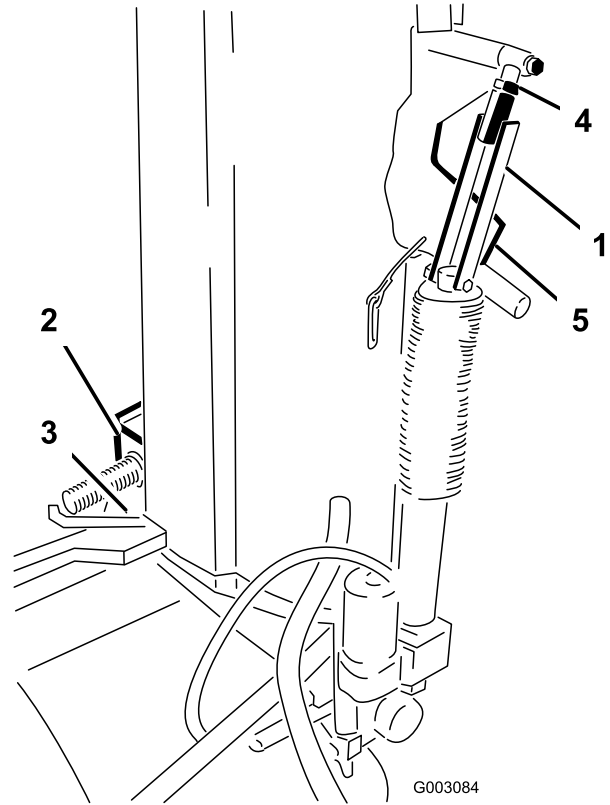

Figure 24
2. Measure the length of the Actuator and Adjustment Link . It should be $30\text{-}1/8'' + 1/16''$ from the center of the Actuator Bolt to the center of the Adjustment Link Bolt. (Figure 24)
4. Measure the length of the Actuator and Adjustment Link . It should be $30\text{-}1/8'' + 1/16''$ from the center of the Actuator Bolt to the center of the Adjustment Link Bolt (Figure 24).